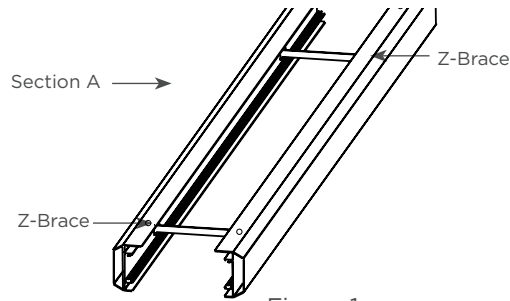

Figure 1
- 2 As shown in Figure 1, begin with frame section A set on a workbench for assembly. Insert two Z-Braces into the frame section A equally spaced. This will provide stability to the frame sections.